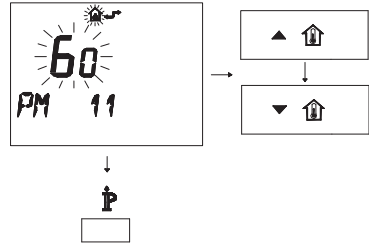

Fig. 7.31
- To modify the programmed SET, act on buttons **▲** **↑** or **▼** **↑** and wait for the programmed number to flash (Fig. 7.31). Each step increased or decreased corresponds to 1 second.